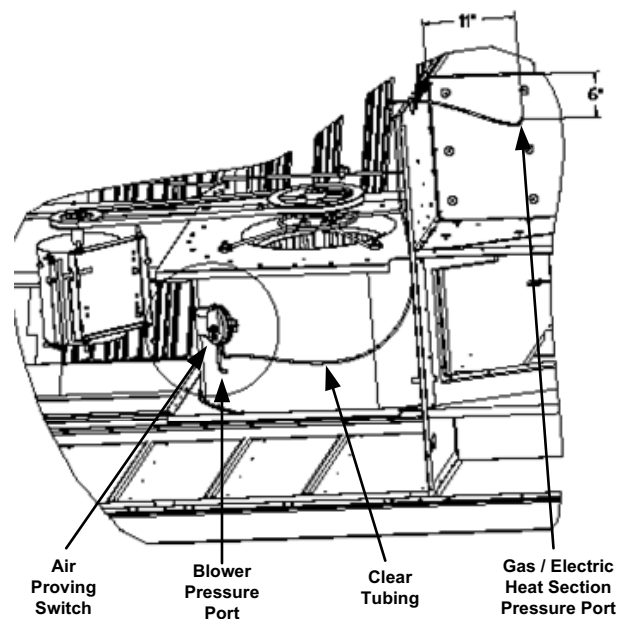

FIGURE 4: APS Location for 15 - 25 Ton Cabinets
3. Mount the Air Proving switch on the blower and secure with two #10-16 drill screws. (Figure 4 shows the approximate location and orientation) Switch must be mounted vertically with ports pointing down.
4. Approximately 2" below the Air Proving Switch drill a .152" diameter hole (#24 Drill) for the blower pressure port connector. In the upper part of the gas/electric heat section, drill a .152" diameter hole (#24 Drill) to locate a pressure tap. Place the hole approximately 11" inches to the right of the evaporator partition panel and 6" inches up from the flue box. (See Figure 4.)
13. Figure 4 shows complete installation in the 15-25 Ton cabinets.